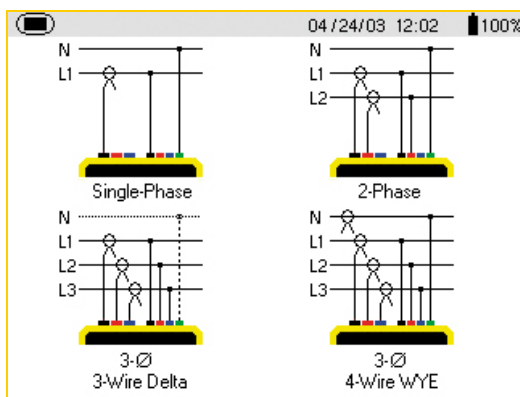
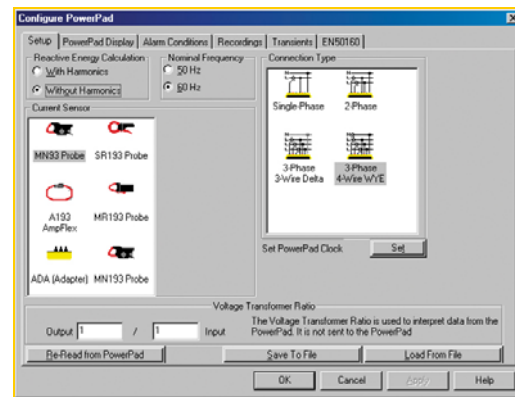

Figure 2. PowerPad™ setup screen
Figure 3. DataView[®] setup screen
- b) The user can depress the SETUP button , the top button on the left side, to configure the instrument (Figure 1 bullet 10). There are 11 options in the setup. One option to note is the Electrical Hookup. Use the arrow keys  (Figure 1, bullet 8) to scroll down and press the ENTER key  (Figure 1, bullet 9). You should see a screen similar to Figure 2. Figure 3 shows the example of the screen seen while configuring the instrument using the DataView[®] software.